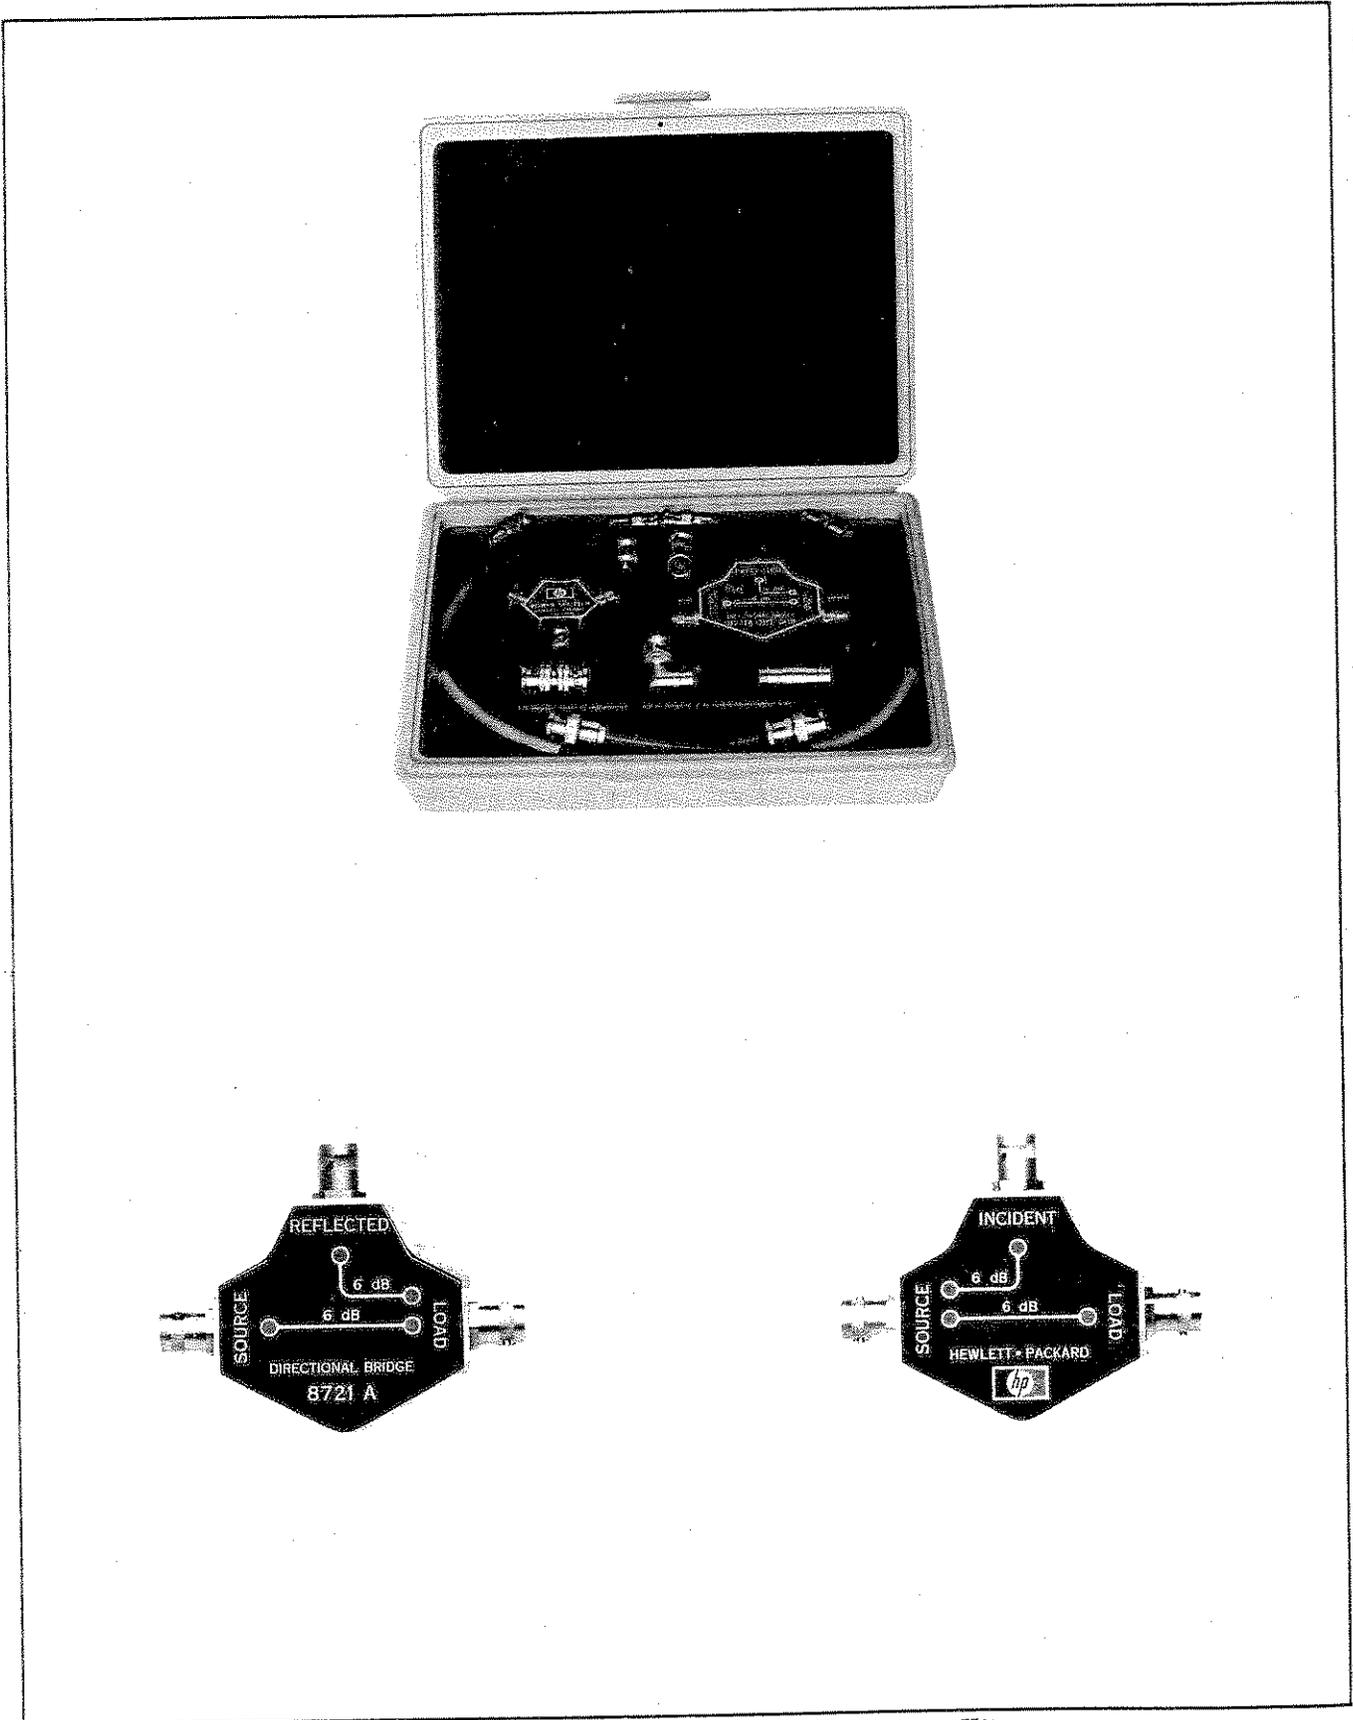
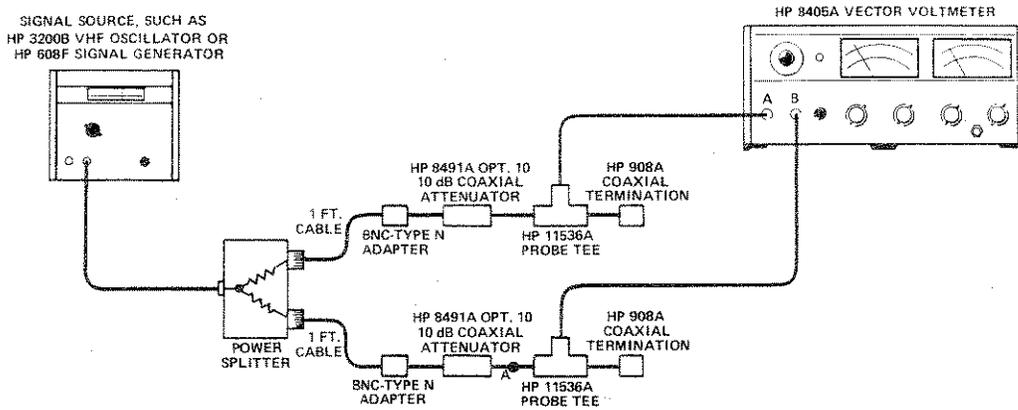

Figure 1. HP 11652A Transmission/Reflection Kit and HP 8721A Directional Bridge
Figure 6. Setup for Making Transmission Measurements with HP 8405A
The HP Model 11652A Transmission/Reflection Kit (see Figure 1) is used when characterizing 50-ohm RF networks from 0.1 to 110 MHz. Swept measurements may be made when the HP 11652A is used with the HP 8407A Network Analyzer (see Figures 4 and 5). Single frequency measurements may be made when using the HP 11652A with the HP 8405A Vector Voltmeter (see Figures 6 and 7).
- a. Setup the equipment as shown in Figure 6.
- c. Insert the test device at point A in Figure 6 and make the measurement.